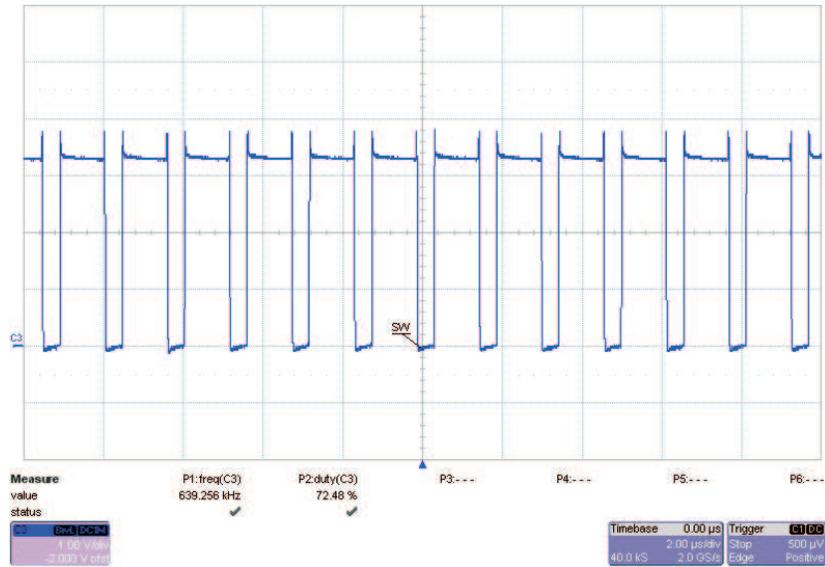
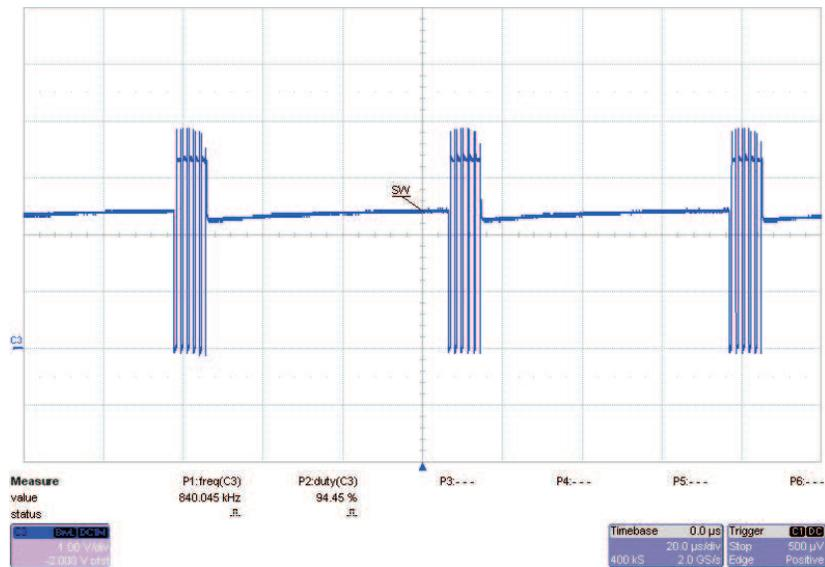

Figure 3. PWM Switching Node Waveform
Figure 4. PFM Switching Node Waveform
In contrast to PWM mode, in which the converter is continuously switching, PFM mode allows the converter to switch in short bursts. Figure 3 and Figure 4 show the switch node waveforms when the converter is operating in PWM and PFM mode, respectively
**Note:** The time scale in Figure 3 is 2 μs/div, whereas the time scale in Figure 4 is 20 μs/div